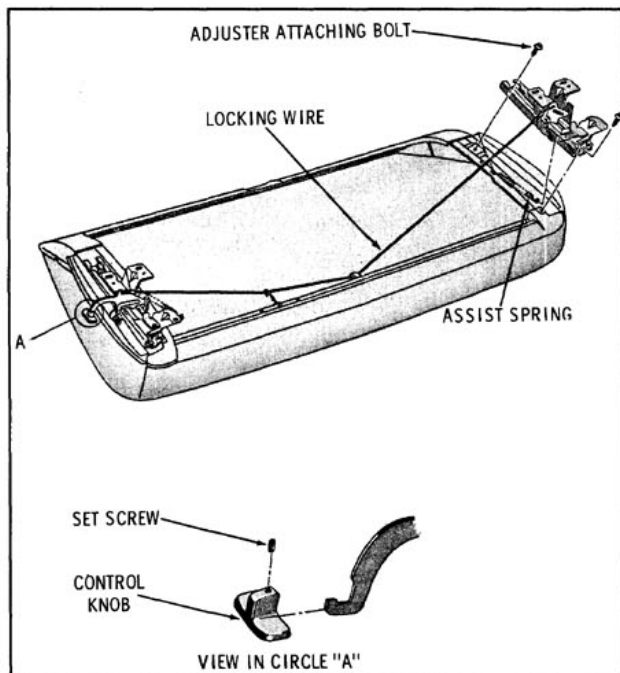

Fig. 16-90 Manual Seat Adjusters
- Remove seat adjuster assist spring from adjuster to be removed. (Fig. 16-90)
- Remove adjuster-to-seat bottom frame front and rear attaching bolts and remove seat adjuster from seat assembly. (Fig. 16-90)